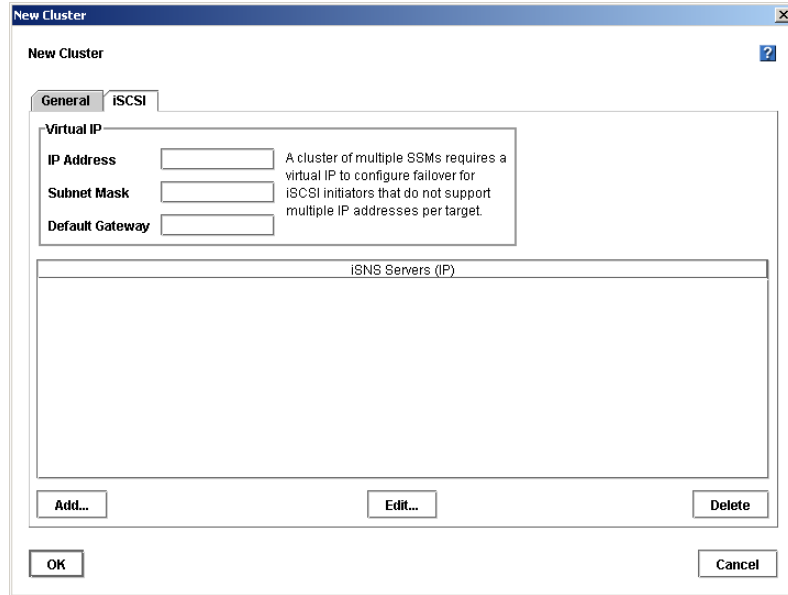

Figure 153. Configuring a Virtual IP Address for iSCSI
1. Click the iSCSI tab to bring it to the front, shown in Figure 153.